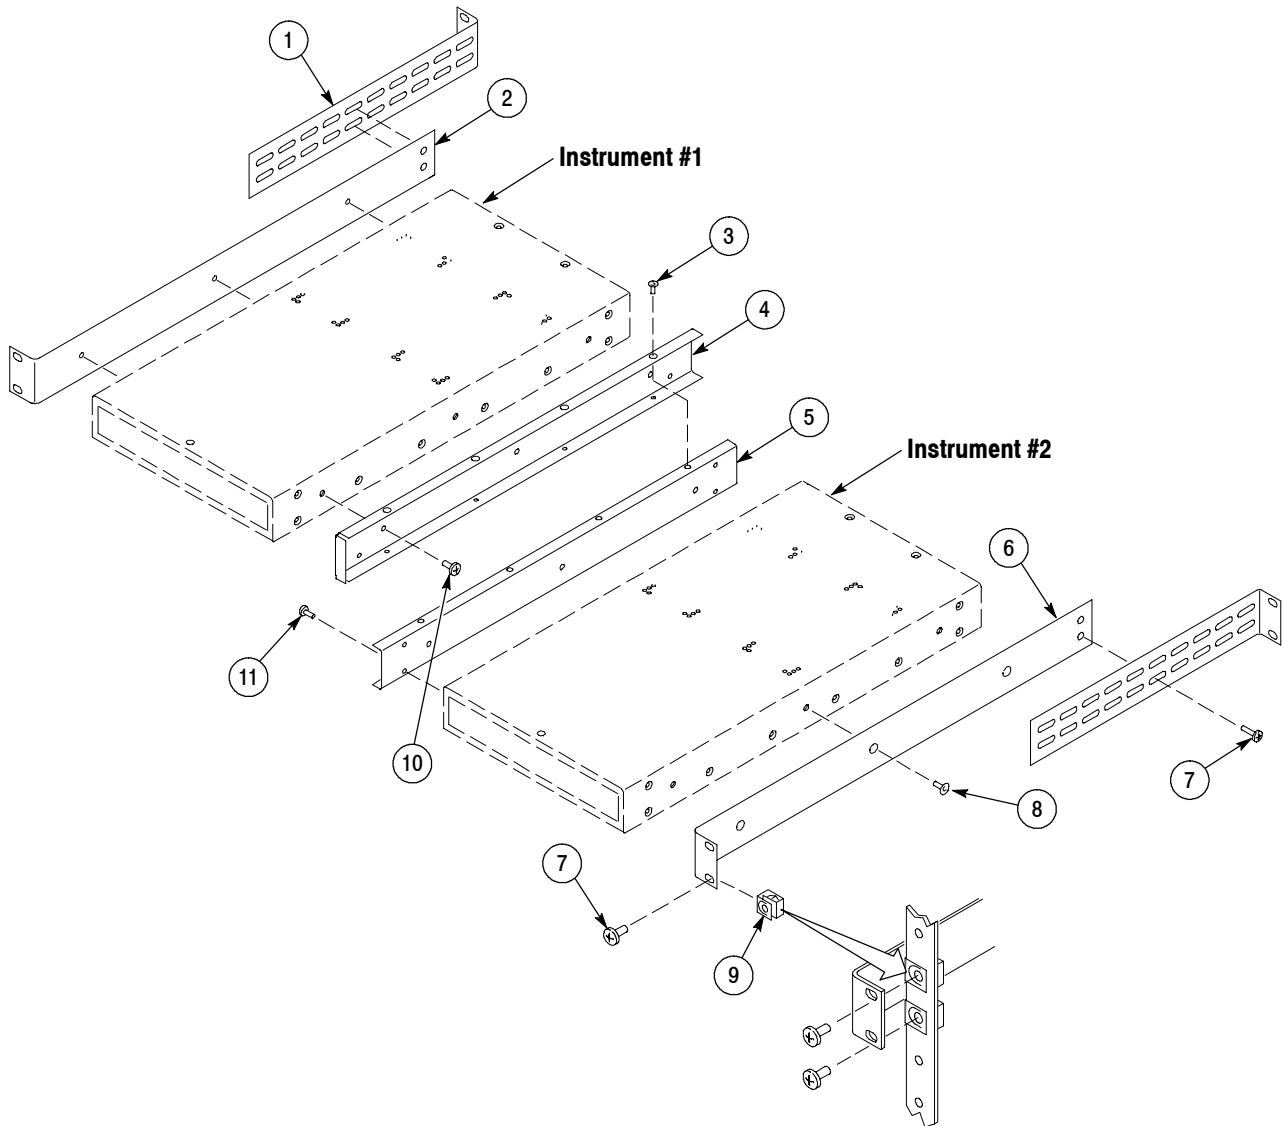

Figure 1: Exploded view of TVF16 assembly
The numbers in the figure/item number column of the following table correspond to the item numbers shown in Figure 1.
NOTE. The numbers listed in brackets [X] in the following procedure refer to the parts supplied in this kit. The numbers correspond to the item numbers shown in the kit parts list and in Figure 1 on page 5. Refer to Figure 1 as needed to identify and orient the parts correctly during assembly.
2. Install the support bracket [4] on the right side of instrument #1 using three screws [10]. This bracket has one closed end which faces the front of the instrument. See Figure 1.
4. Install the support bracket [2] (marked with an “L”) on the left side of instrument #1 using three screws [8]. The ear of the bracket should face the front of the instrument. See Figure 1.
4. Install the support bracket [6] (marked with an “R”) on the right side of instrument #2 using three screws [8]. The ear of the bracket should face the front of the instrument. See Figure 1.
3. Use eight screws [3] to attach the two instruments together through the top and bottom of the two middle brackets. See Figure 1. Leave the screws loose until you have installed all eight screws, then tighten.
1. Install a bracket [1] on both sides of the instrument / rackmount assembly using two screws [7] for each bracket. Do not tighten the screws. The ear of each bracket should face the rear of the instrument. See Figure 1.
NOTE. This kit provides eight clip-on nuts [9] for use on equipment racks that do not have threaded mounting rails. Figure 1 on page 5 shows how to attach the nuts to the mounting rails of the equipment rack.